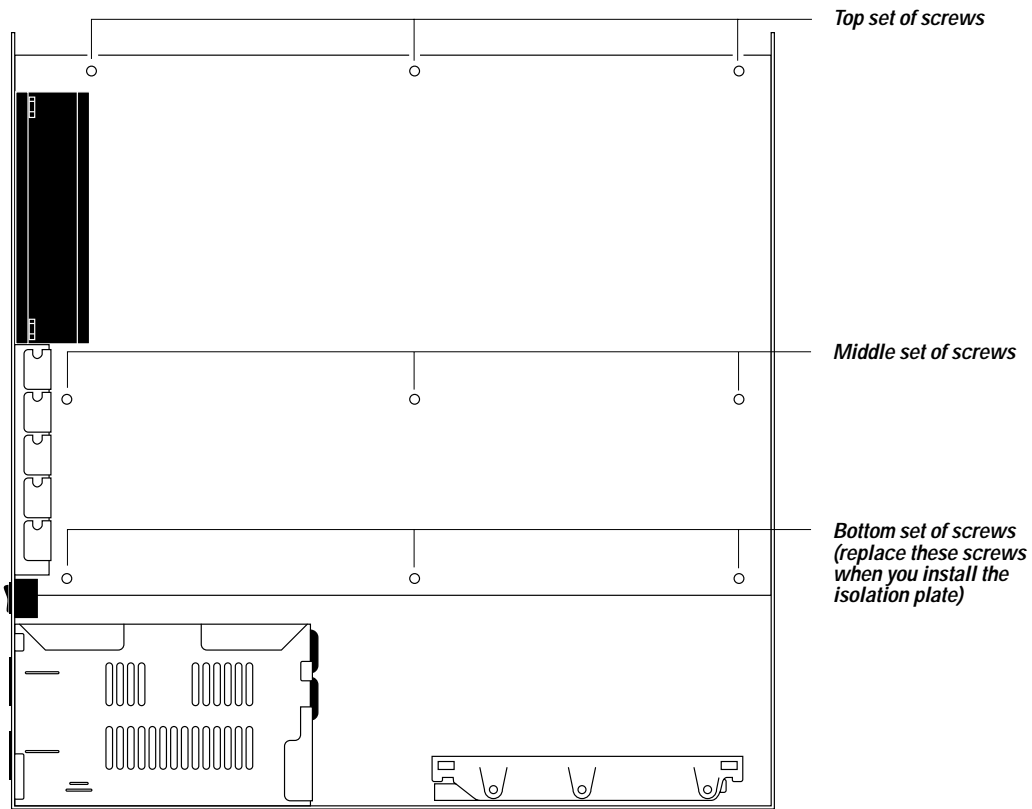

Figure 5-21 Motherboard screw positions on the chassis
- 3. *Position the center mounting screw hole in the motherboard over the center mounting screw hole in the chassis (see Figure 5-21 on page 5-28 for screw positions on the Fiery XJ BP100 chassis).***
- 5. *Insert screws in the top and middle set of screw holes and tighten them (see Figure 5-21 on page 5-28).***